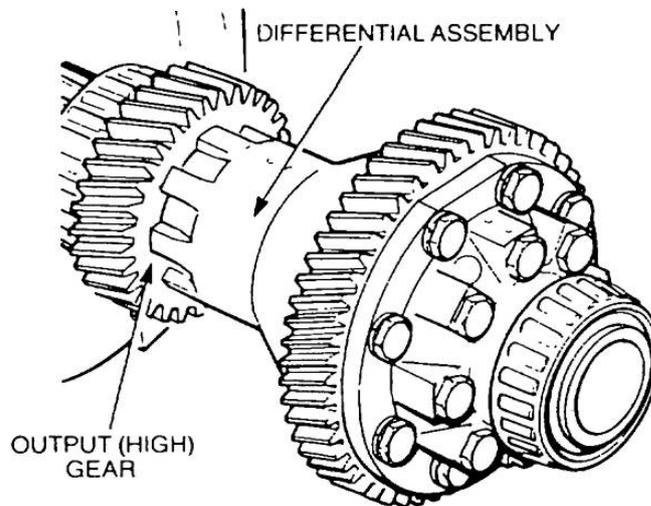

Figure 72 Removal of the Differential Assembly
- p. Remove the differential assembly complete with the output (high) gear (Figure 72).